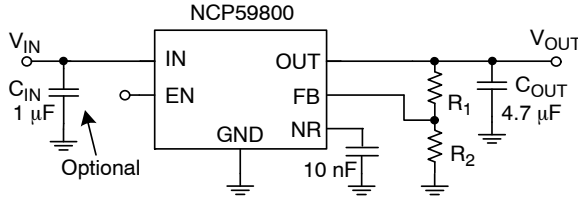

Figure 24. Typical Application Schematics
The NCP59800 regulator is equipped with Noise Reduction pin (NR) for noise sensitive applications. A noise reduction capacitor (C_{NR}) at the NR pin bypasses noise generated by the bandgap reference. This family of regulators offers sub-bandgap output voltages, current limit, and thermal protection, and is fully specified from -40°C to +125°C, assuming resistors with zero error. For the actual design, pay attention to any resistor error factors. Figure 24 gives the Typical Application Schematics.